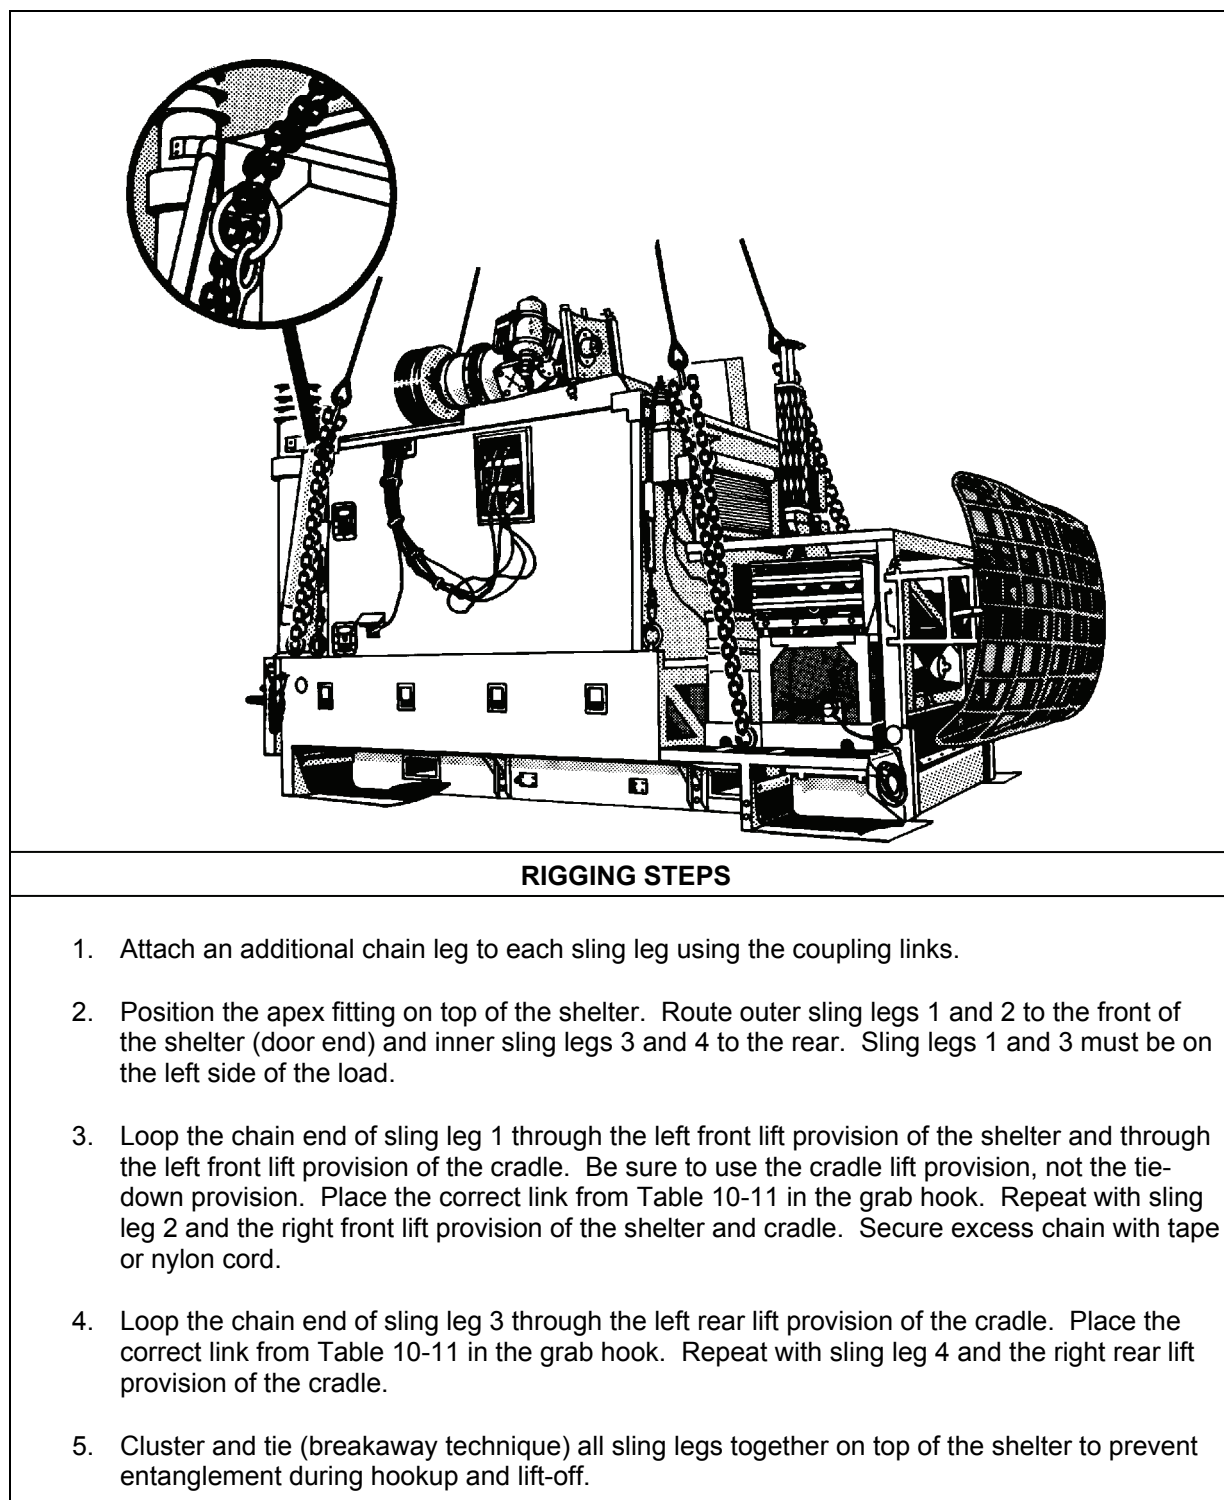

Figure 10-11. Cradle Mounted AN/TPQ-32A Radar Set, Component of the AN/MPQ-49A Forward Area Alerting Radar System
- **Rigging.** Rig the load according to the steps in Figure 10-11.